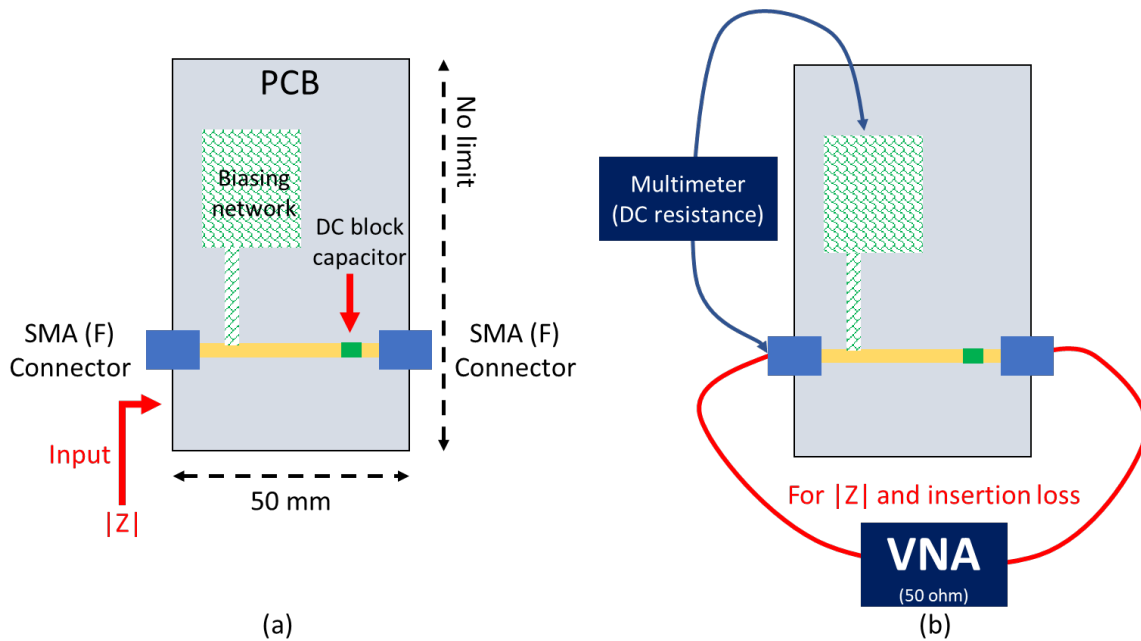

Figure 2. Details of the PCB dimensions and measurement direction of $|Z|$ (a), measurement points for VNA and multimeter (b).
- f. *Length of the circuit must be 50 mm, check Figure 2 for details*